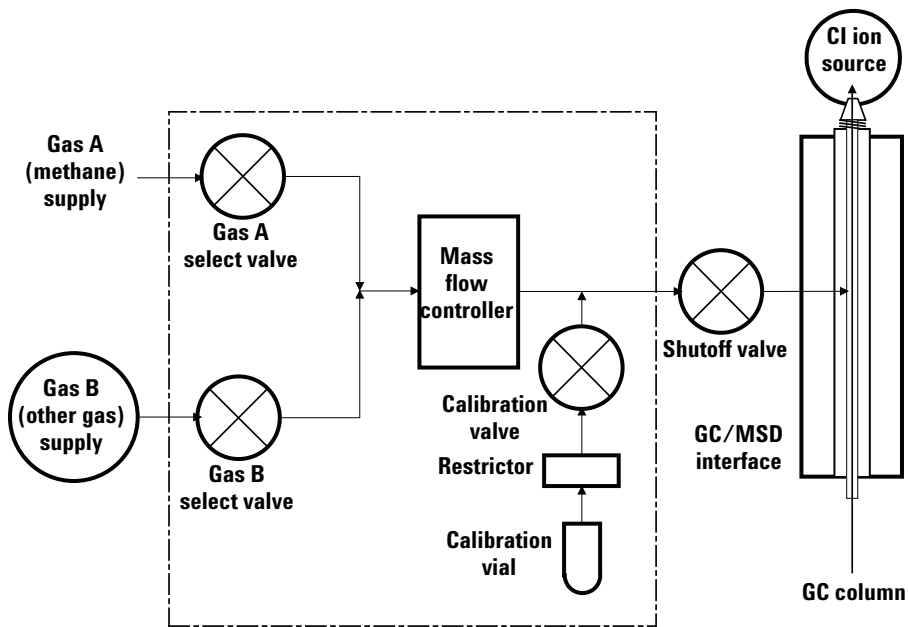

Figure 4 Schematic of CI flow control module
- 1 See Figure 4 on page 67 and Table 7 on page 67.
- Close valves starting at the gas select valves (**Gas A** then **Gas B**), then close the shutoff valve. See Figure 4 on page 67 and Table 7 on page 67.